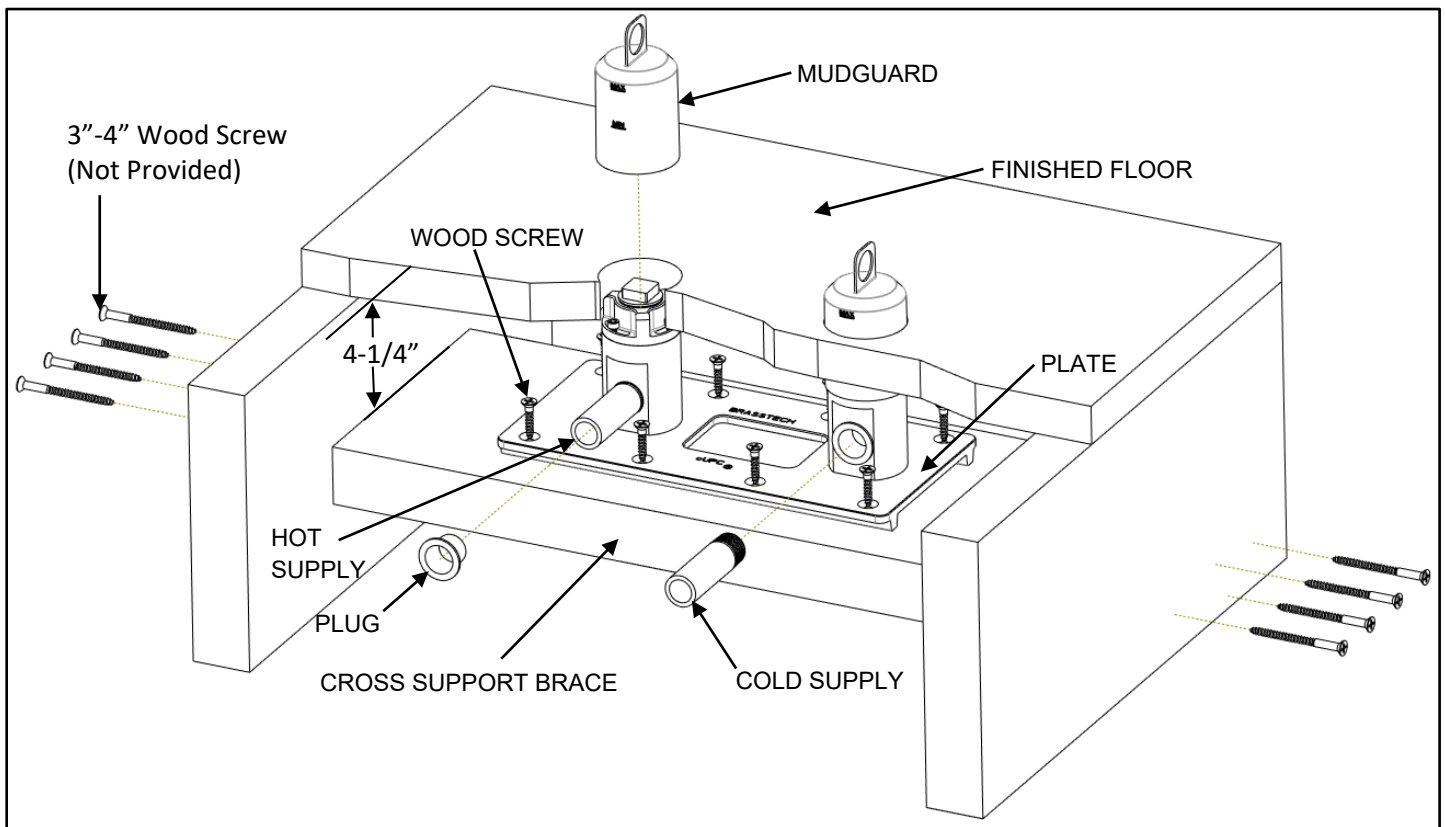

Figure 2: Wood Joist Support Floor Installation
1. Use a 2" X 8" wood beam to construct a CROSS SUPPORT BRACE as shown in **Figure 2**. Position the CROSS SUPPORT BRACE so its top surface is approximately 4-1/4" from the FINISHED FLOOR. Check the horizontal level by placing a level across the top surface of the CROSS SUPPORT BRACE.